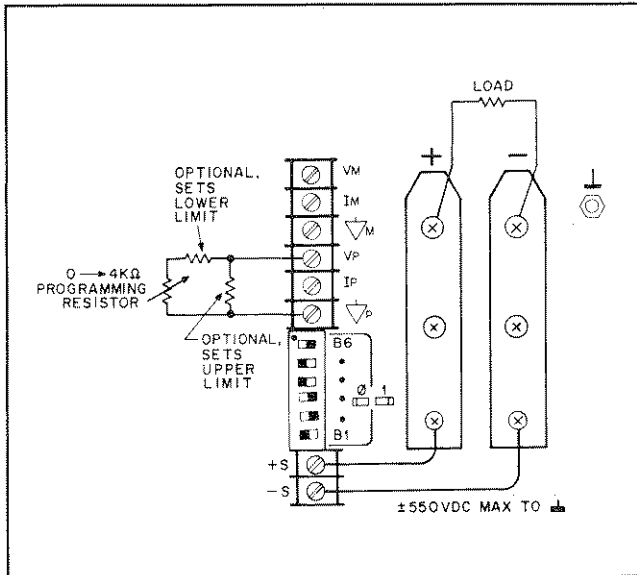

Figure 3-9. Resistance Programming of Output Voltage
3-55 Figure 3-9 shows the rear-panel MODE switch settings and terminal connections for remote-resistance control of output voltage. A 0 to 4 k ohms external programming resistance will produce a 0 to 200 Vdc output. The resistance programming coefficient is nominally 20 ohms/volt.
*If a programming resistor to a programming terminal opens during resistive programming, the output voltage or current will rise. If CV programming is interrupted, the units voltage will rise to the O.V. setting and shut down. If CC programming is interrupted, the units output current will rise to approximately 19 amps. The user should be sure that these two conditions will not damage the load. To protect against OVP shutdown when switching CV programming resistors, and to protect the load against over current when switching CC programming resistors, connect a parallel resistor directly to the programming terminals as shown in Figures 3-9 and 3-10 to set an upper limit on output voltage and current. (The resistance value which determines the output is the parallel combination.)*